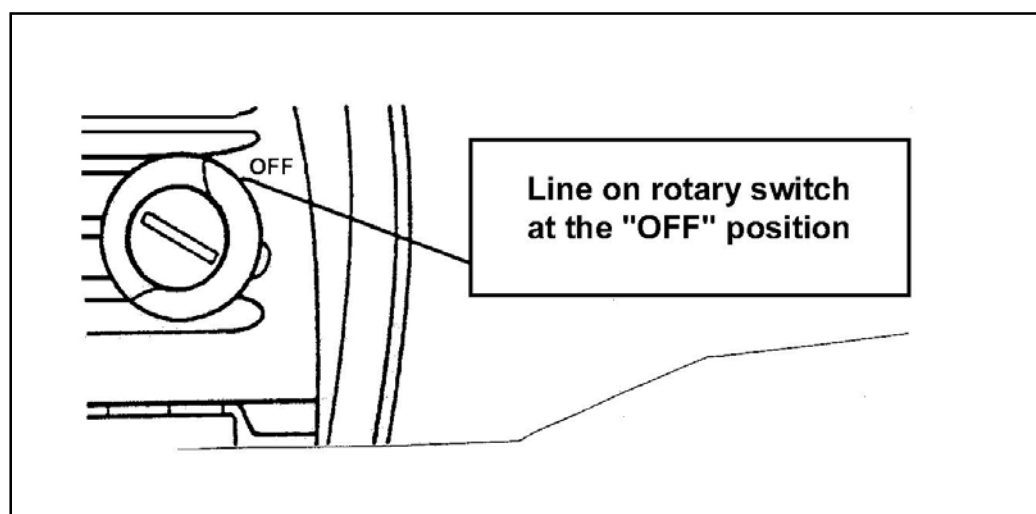

Figure G-53. OFF switch.
(2) Turn the rotary switch to the OFF position when the telescope is being used during normal daylight or when illumination is not required (Figure G-53). Ensure the reticle illumination switch is turned to the OFF position when not required.